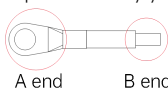

Fig. 7 Grounding terminal connection
(5) Grounding: MV810-TCP01 must be grounded during wiring, as shown in Fig. 7. You need to prepare and crimp the cable by yourself.